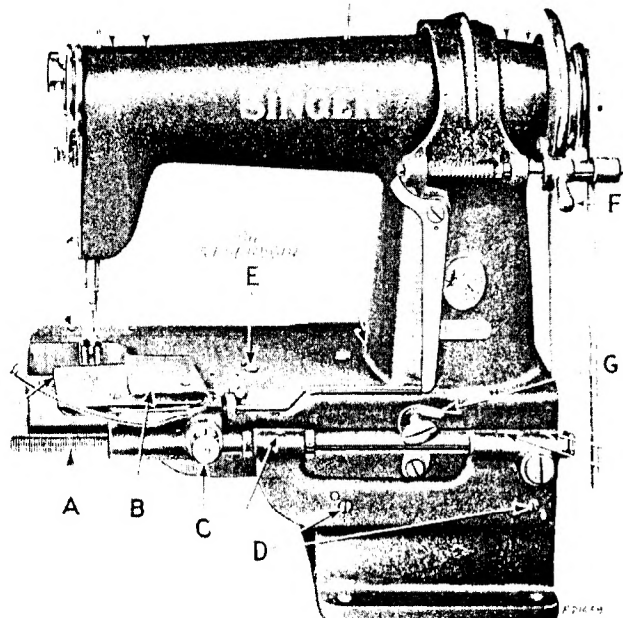
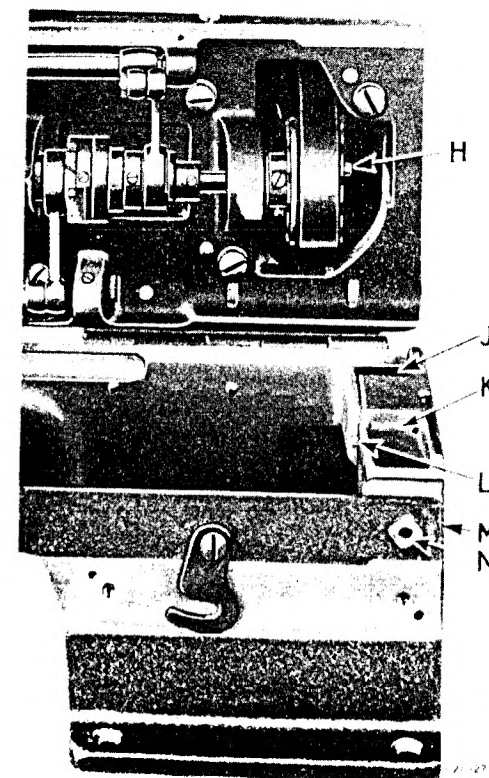

Fig. 4. Showing Oiling Points on the Machine
Fig. 5. Showing Oil Reservoirs in Base of Machine
To oil the moving parts in the machine base, remove the hat brim guide **B**, **Fig. 4**, by turning the knurled knob **C**, **Fig. 4** to the left as far as it will go, then draw the brim guide to the left and remove it from the machine. Release the latch **G**, **Fig. 4** and tilt the machine back on its hinges so that the moving parts in the machine base can be oiled as follows:
Pour oil into the reservoirs **J** and **K**, **Fig. 5**, until it overflows into the machine base. Inspect the oil level in these reservoirs twice daily. (The thread on the lead screw **A**, **Fig. 4** must be kept free of oil to prevent lint from collecting on it).
**CAUTION.** Before machine is returned to normal position, it is very important to see that the driving pin **H**, **Fig. 5** is at its highest point and that the driven pin **L**, **Fig. 5** is at its lowest point. This will prevent damage to the pins **H** and **L**.